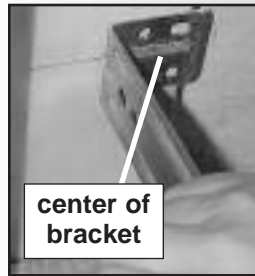

Fig. 3-2
- Center bracket on your mark **Fig. 3-2.**
- Fasten each with 2 screws [40]. **Fig. 3-2.** (Tongues should point toward each other.)